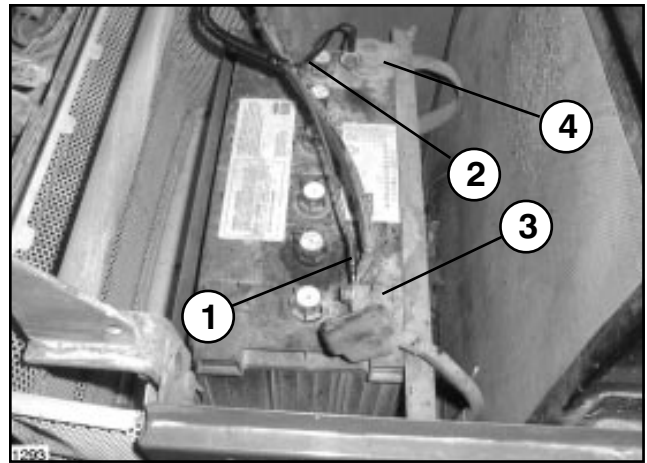

FIG. 2
2. Connect the **red** wire from the Wire Harness to the **positive** (+) post on the Tractor's Battery or to the **positive** (+) post on the Tractor's Starter Solenoid. See FIG. 2.
3. Connect the **black** wire from the Wire Harness to the **negative** (-) post on the Tractor's Battery or to the Tractor's frame if the tractor frame is grounded. See FIG. 2.